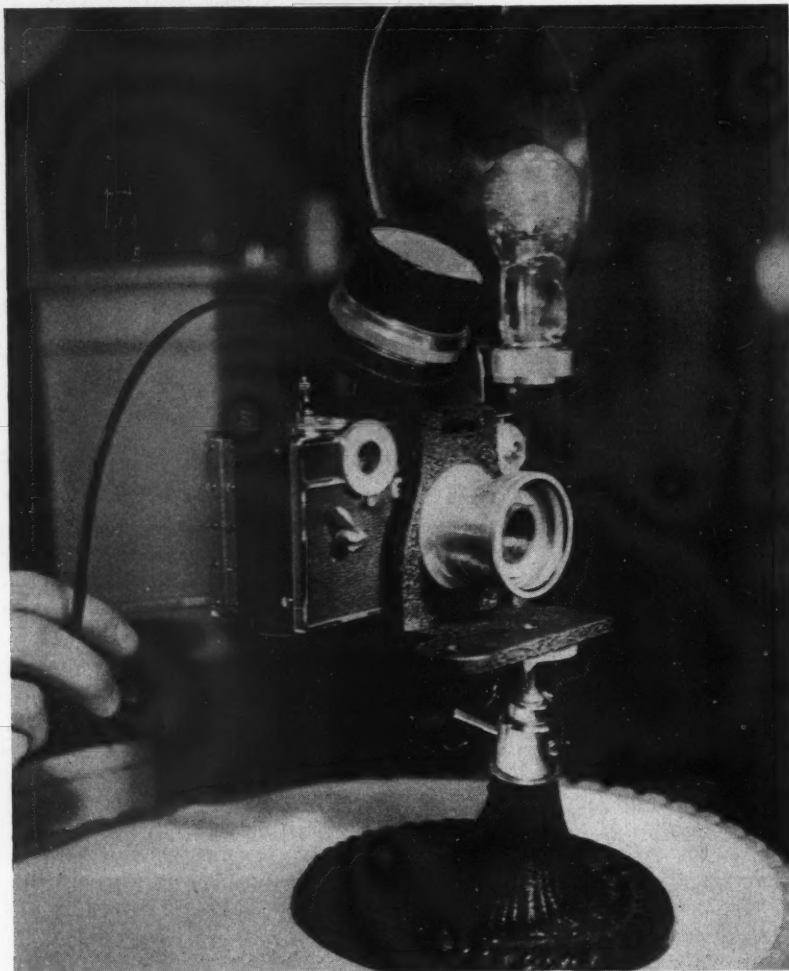

Fig. 4—Picture being taken by pushing cable release which clicks shutter and sets off flashbulb simultaneously.
5. The picture is taken by pushing the cable release which clicks the shutter and sets off the flashbulb simultaneously (Fig. 4).
6. The entire assembly, after picture-taking (Fig. 4), is removed as a unit and stored away until the next exposure.